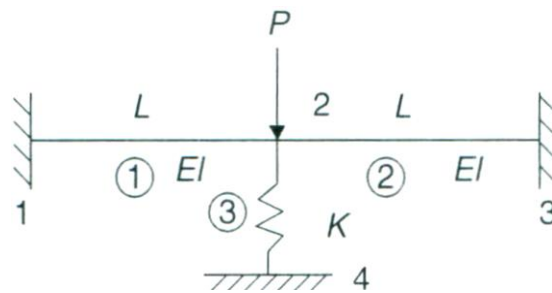

FIGURE 4B
- 4B.** For the structural configuration shown in **figure 4B**, obtain the displacement and slope **03 M**